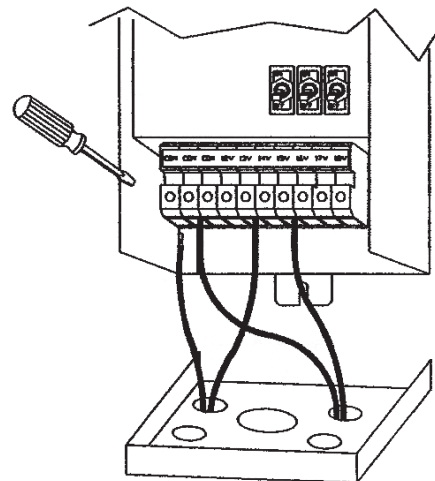

Figure 3
- Loosen the two screws that hold the unit cover in place and remove the cover. Run the low voltage lighting cables through the knockouts in the Bottom Plate as shown in Figure 3.